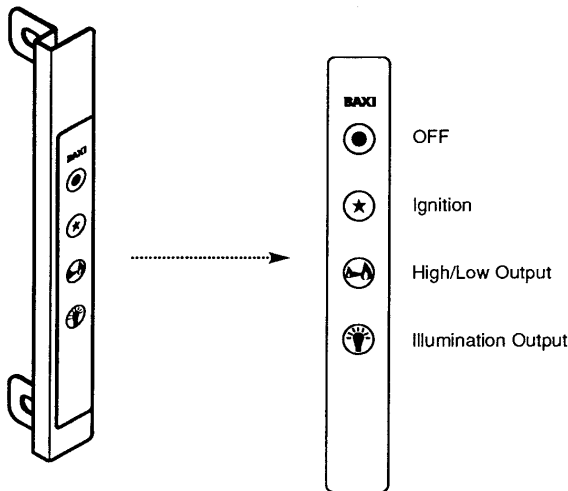

Fig. 22
1. To purge the air from the appliance, press the ignition button (★) on the switch panel at the top right hand side of the fire (Fig. 22).